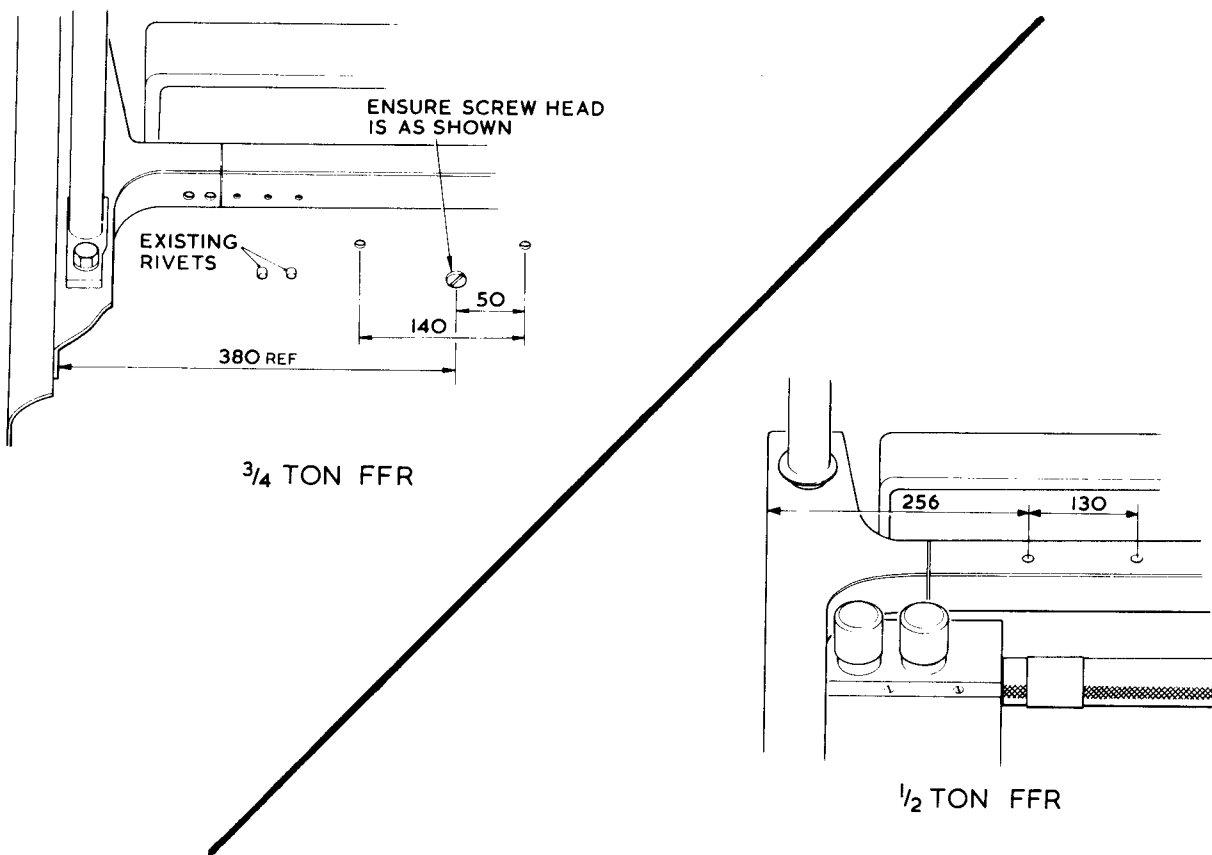

Fig. 3 Modifications to bulkhead
2. The bulkhead behind the lefthand front seat should be drilled to accept the distribution box ($\frac{3}{4}$ ton) or its mounting bracket ($\frac{1}{2}$ ton). In $\frac{3}{4}$ ton vehicles it is essential that the cable securing screw has its head toward the rear. See fig. 3.